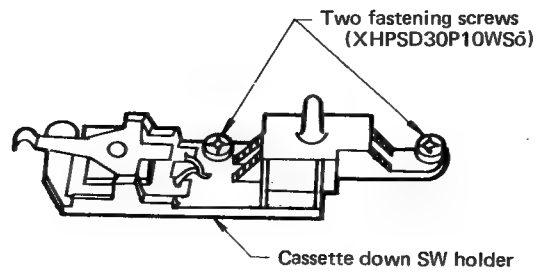

Figure 7-32.
- 3) Remove the two screws (XHPSD30P10WSô) which fasten the cassette down SW holder and move the holder slightly. (Be careful not to cut off the leads of the cassette down SW.) (See Figure 7-32.)
- 4) Remove the two screws (6) (XBPSD30P05J00) fastening the reel motor and, holding the reel motor from the underside of the chassis, remove the reel motor. At this time, keep reel idler (4) moved to the left or right.